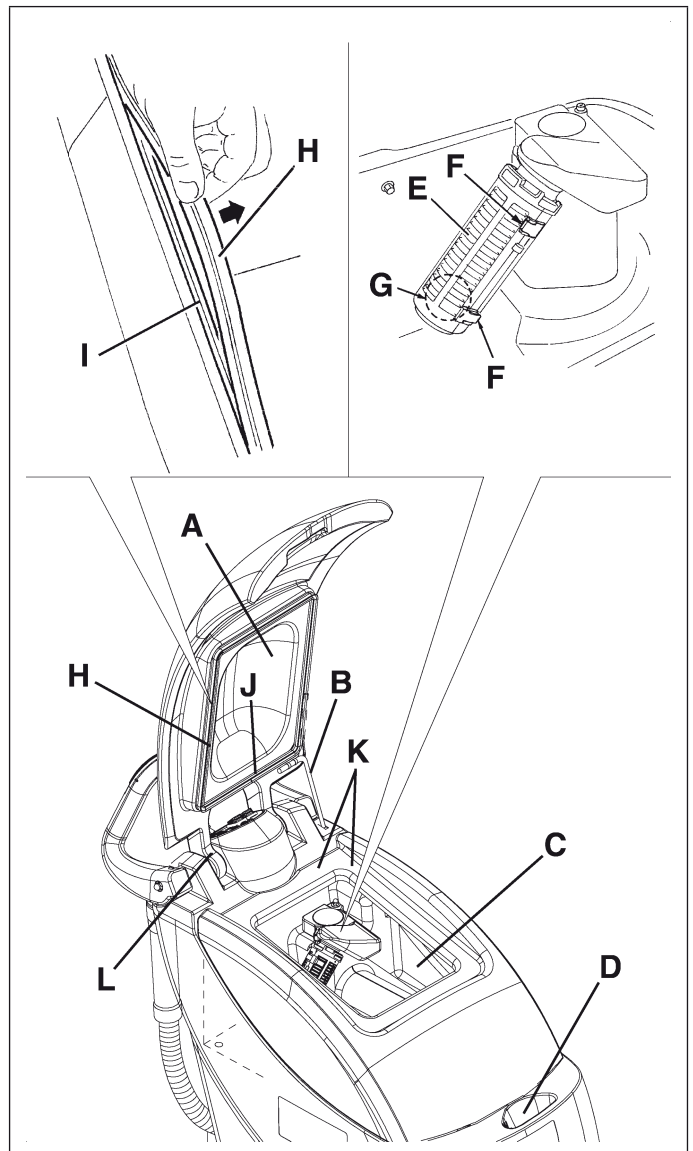

Figure 19
3. Lift the cover (A, Fig. 19) and apply the cover stand (B), then clean and wash the cover, the tanks (C and D) and the vacuum grid (E) with clean water.
4. If necessary, release the retainers (F, Fig. 19), open the vacuum grid (E), remove the float (G), then carefully clean and reinstall them.
5. Check the cover sealing gasket (H, Fig. 19) of the recovery tank for wear.
The gasket (H, Fig. 19) creates vacuum in the tank, which is necessary for the vacuuming of the recovery water.
If necessary, replace the gasket (H, Fig. 19) after removing it from the housing (I).
When reassembling the new gasket, install the joint (J) in the central area, as shown in Fig. 19.
6. Check the gasket (H, Fig. 19) seating surface (K) for integrity and sealing capabilities.
7. Check the vent hole (L, Fig. 19). If clogged, clean it.
The hole (L, Fig. 19) compensates the air in the cover interspaces, thus allowing the creation of vacuum in the recovery tank.
8. Remove the cover stand (B, Fig. 19) and close the cover (A).